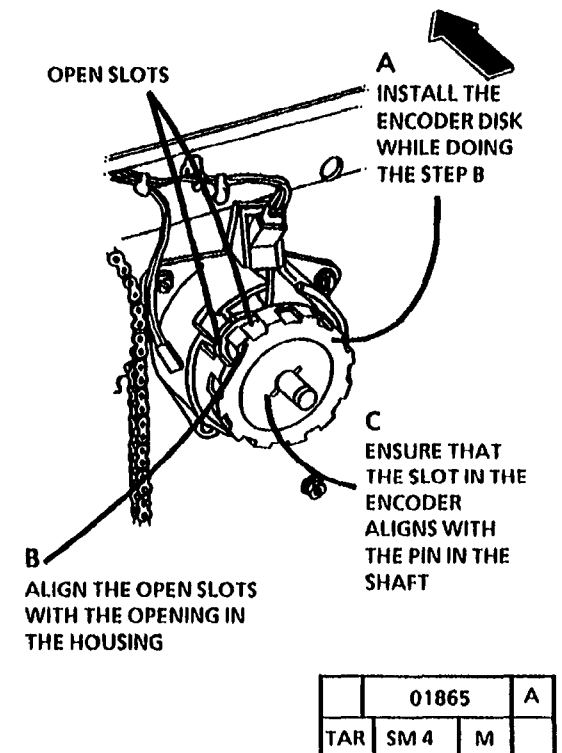

Figure 2. Install the Encoder
1. (Figure 2): Install the Encoder Disk.